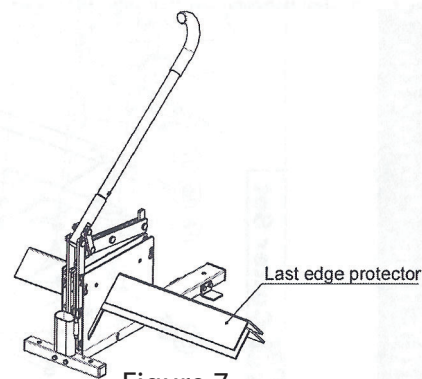

Figure 7
**Hint:** When cutting boards of the same length, cut the first board to the desired length and lay that board over the boards that need to be cut lining up the ends. This will assure the same length board is cut each time without having to measure each individual board. See Figure 7.